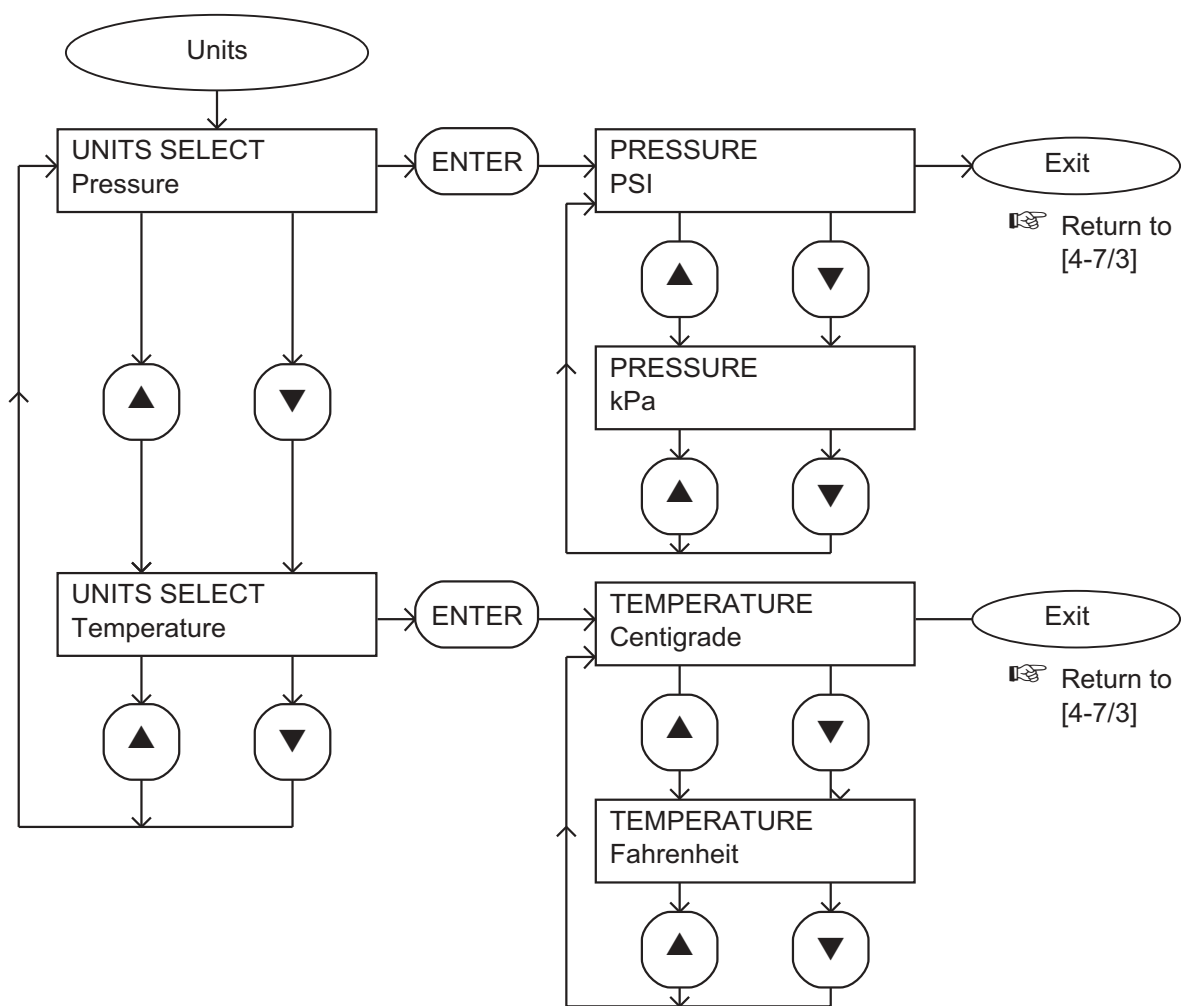

Figure 4-11 - Units menu
7. Press the ENTER button; the display will then show 'Units Select' on the top line and 'Pressure' on the bottom line (see Figure 4-11).
8. Press the ENTER button; the display will then show 'PRESSURE' on the top line and 'psi' or 'kPa' on the bottom line (see Figure 4-11).